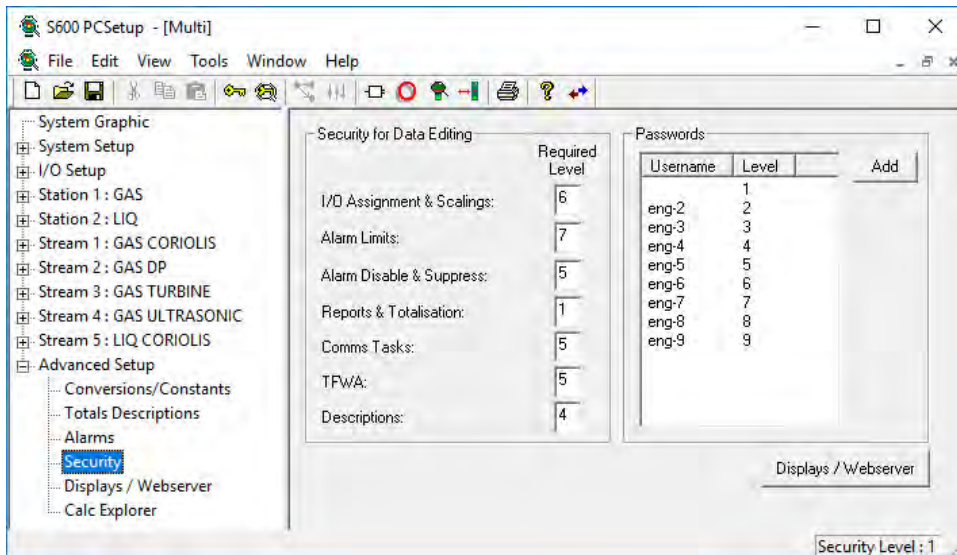

Figure 7-5. Security screen
**Note:** By default, PCSetup opens with the user logged on a Level 1 security. To activate the security on PCSetup, you must enter a username and a PCSetup password for Level 1 security (see *Figure 7-5*). The PCSetup program does not allow you to delete Level 1 logins.